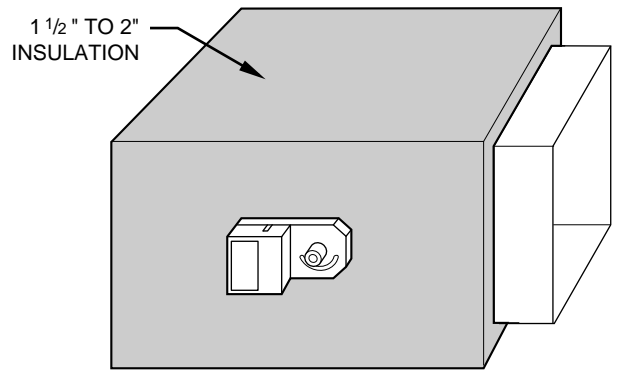

Fig. 3—Insulated Rectangular Metal Duct Work
3. Insulate damper using 1-1/2 in. to 2-in. insulation. (Check your local codes.) (See Fig. 3.)